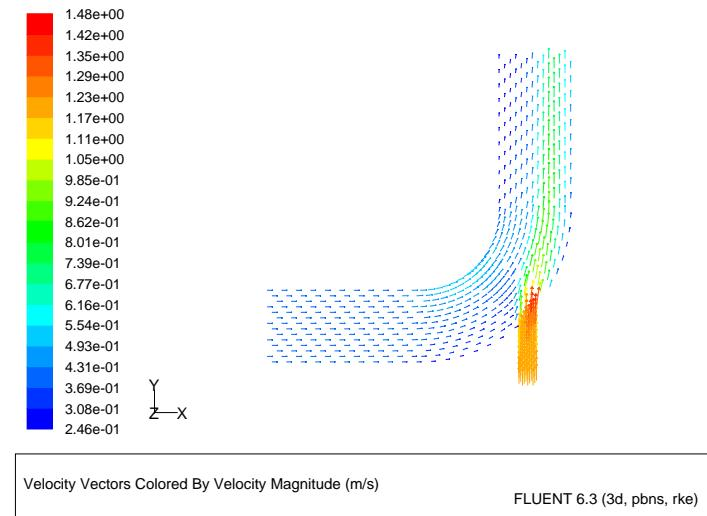

Figure 1.7: Resized Velocity Vectors
3. Display velocity vectors on the symmetry plane (Figures 1.7 and 1.8).
- Click Display again (Figure 1.7).
*To do this, drag your mouse to the left and either up or down, while pressing the middle mouse button. A rectangle will appear on the screen. Make sure that the rectangle is approximately the same size as the rectangle you made while zooming in, and then let go of the middle mouse button. The image will be redisplayed at a lower magnification (Figure 1.7). If the resulting image is not centered, you can translate the view by clicking once with the middle mouse button near the center of the geometry.*